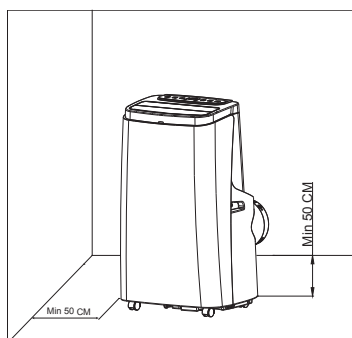

Figure 4
- Move the machine with installed heat pipe and fittings before the window, and the distance between the body and walls or other objects shall be least 50 cm (as shown in Fig.4).